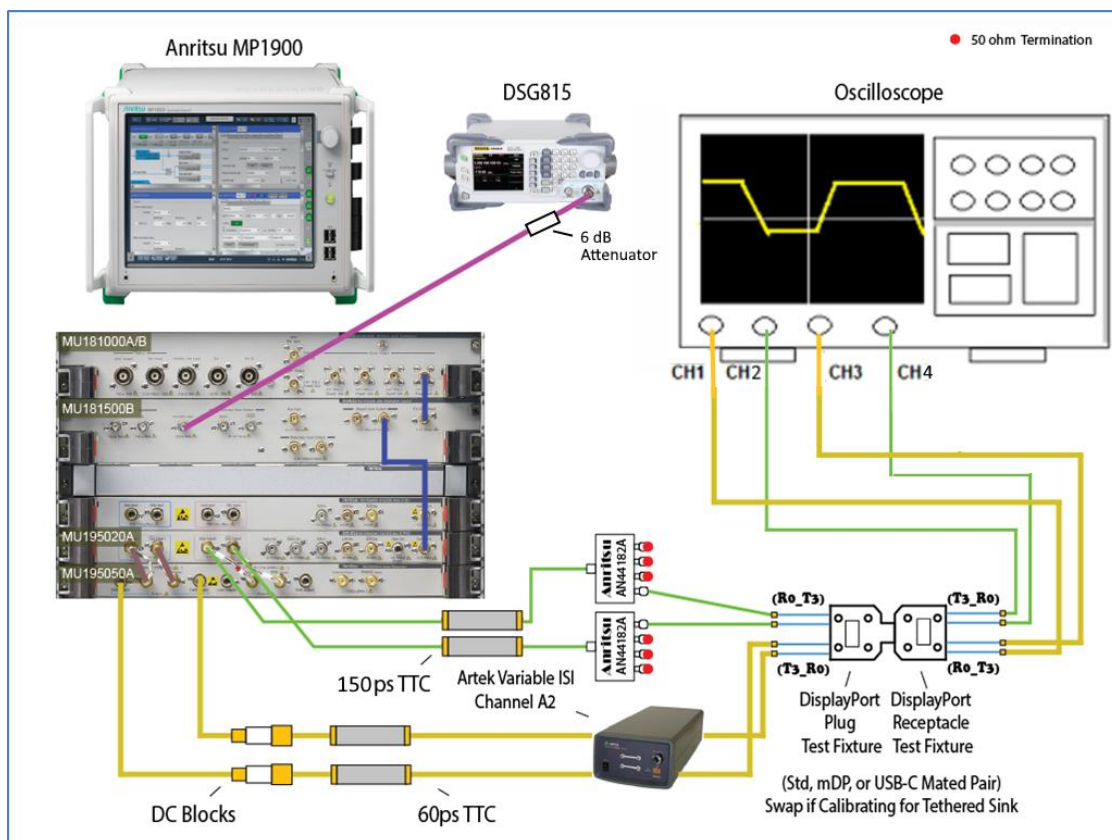

FIGURE 50. HBR3 CONCEPTUAL SETUP FOR TP3 CALIBRATION
Figure 50 shows the conceptual calibration setup at TP3. This setup uses the Artek CLE1000-A2 as the variable ISI source and the MP1900A BERT as the crosstalk source.
- Connect the crosstalk source (Channel 2) to the fixture and Scope as shown in Figure 50.